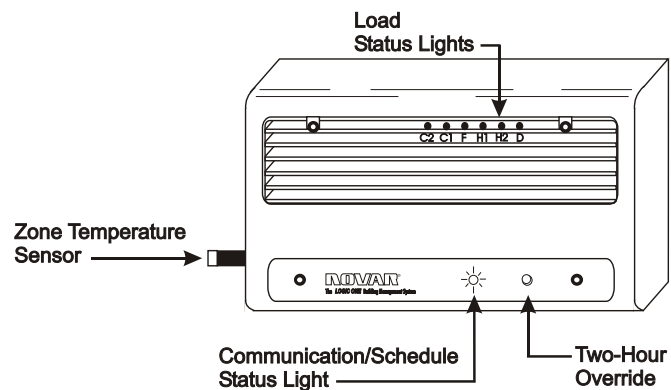

Figure 1. ETM-2040
The ETM-2040 is designed to be mounted on the wall in the space being controlled. A zone temperature sensor is factory-mounted on the ETM (Figure 1). A duct temperature sensor (DTS-30) can be mounted in the supply-air duct and wired to the ETM.
- ETM communications status light-emitting diode (LED) located on the front of the module (see Figure 1)
- Load status lights located behind the grill on the front of the module (see Figure 1)
The load status lights located behind the grill on the front of the module (Figure 1) indicate if the ETM is currently calling for the cooling loads (C2, C1), fan, heating loads (H1, H2), or damper.